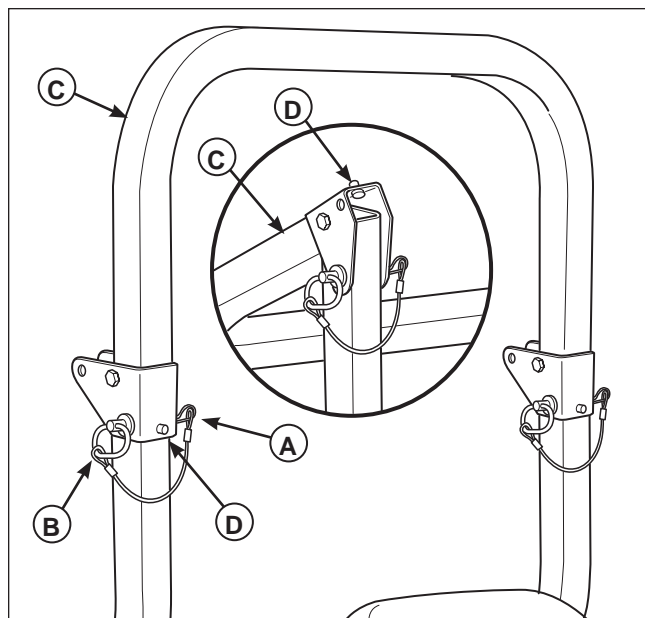

Figure 13. Raise & Lower the Roll Bar
1. Pull the hair pin clips (A, Figure 13) out of the retainer pins (B).
2. Push or pull the top of the roll bar (C) forward against the rubber stops (D) and remove the retainer pins (B).
3. Lower the roll bar and reinstall the retainer pins and hair pin clips to secure the roll bar in the down position (see insert, Figure 13).